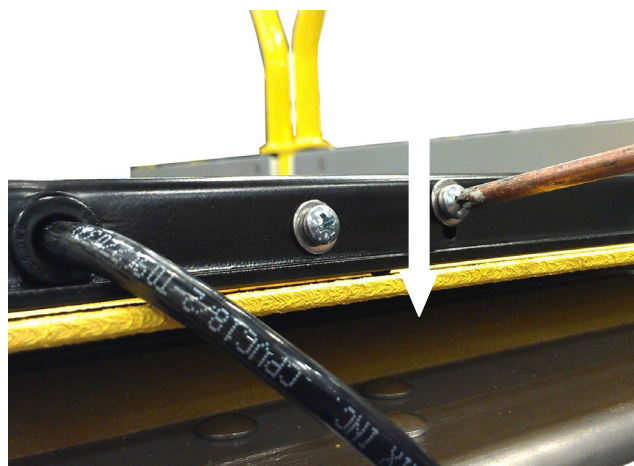

FIGURE 2-14. BRIDGEPLATE SWITCH ADJUSTMENT
- 7) Refer to **Figure 2-14**. Shift screw slowly downward until a "click" can be heard. Reposition screw just before "click" sound which indicates bridgeplate switch is activated.